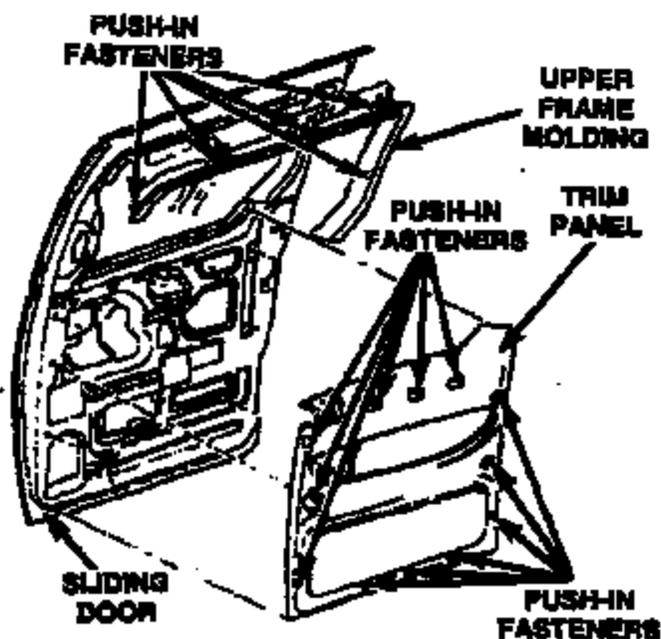

Figure 1
1. Remove the left sliding door upper frame molding (Figure 1).
3. Disengage the push-in fasteners from around the perimeter of the trim panel and then remove the trim panel (Figure 1).
11. Engage the locating pins on the backside of the trim panel with the mating holes on the inner door panel (Figure 1).
13. Install the sliding door upper frame molding (Figure 1).